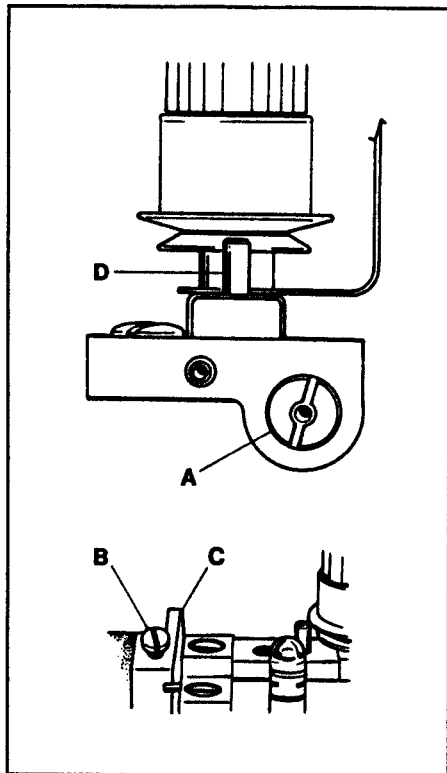

FIG. 36
The tension release should start to function when the presser foot has raised approximately  $1/32$ " (0.8mm) above the surface of the throat plate and be entirely released when the presser foot has reached its highest position. Insert a large screwdriver into slot on the right end of shaft (A, Fig. 36), loosen screw (B) in lifter lever (C) and turn the screwdriver to raise or lower pins (D). Tighten screw (B).